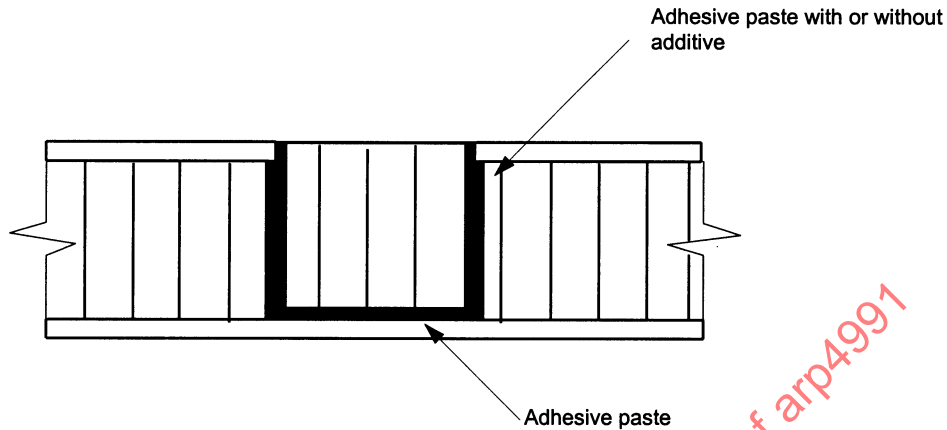

FIGURE 8 - Full Depth Core Restoration With Honeycomb - Method 1
5.3.5 Full Depth Core Restoration With Honeycomb - Method 1 (Figure 8): This method uses an adhesive paste as the common material for the honeycomb splicing and the bonding to the existing skin. Depending on the viscosity of the adhesive selected, an additive can be added.